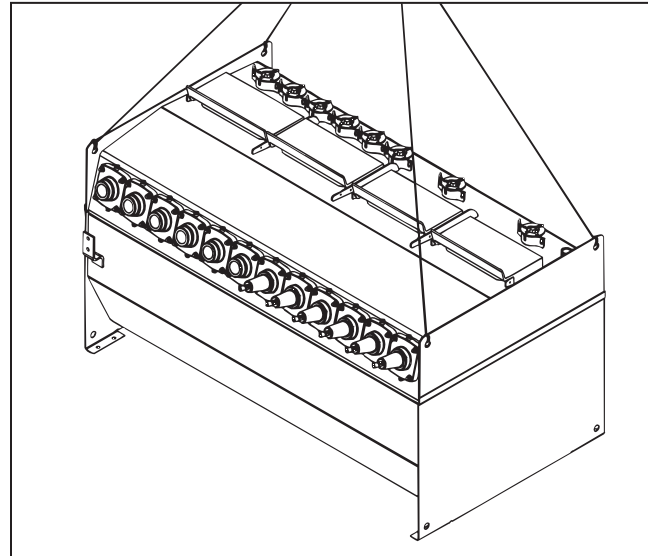

Figure 2. A properly slung tank for pad-mounted style switchgear.
- STEP 2.** Use a four-point lifting scheme to properly balance the gear. See Figure 2 on page 8.